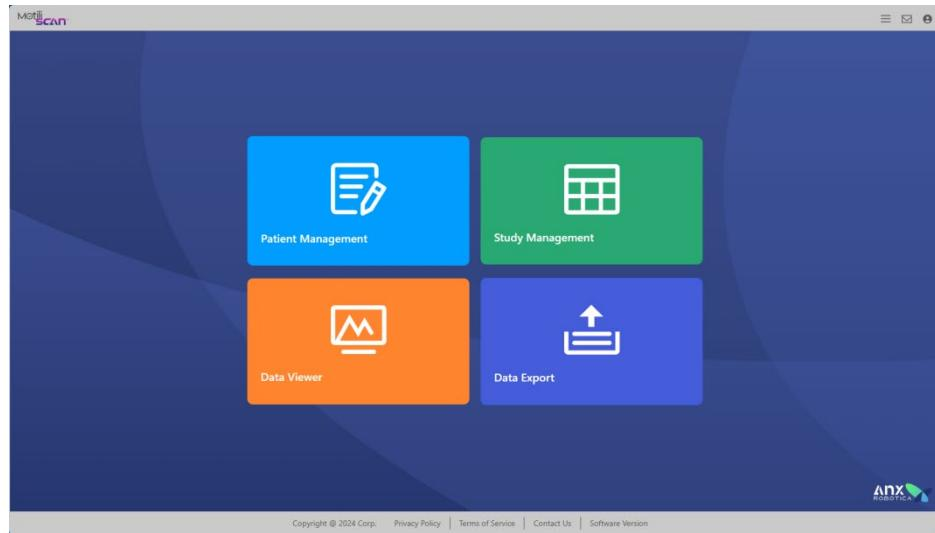

Figure 3-4 MotiliScan Home Page
- 3) Open the MotiliScan, and log in to enter the home page (Figure 3-4).